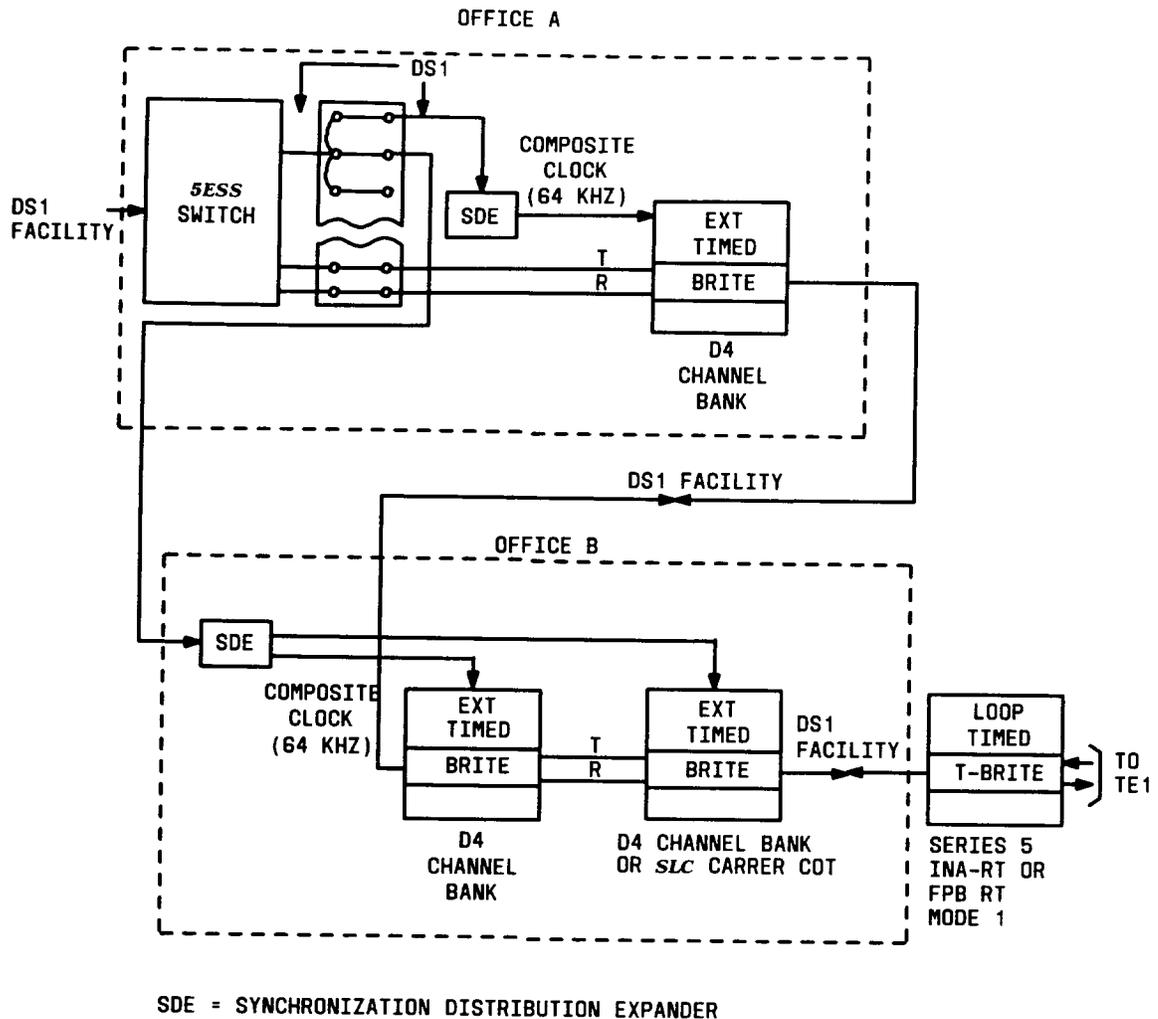

Figure 2— Suggested method of timing and synchronization for ISDN circuits
- **A common timing source must be established for the switch and transmission equipment so that synchronization will exist throughout the ISDN circuit.** Composite clock (64 kHz) must be used to time the transmission equipment. Suggested timing and synchronization methods are shown in Figure 2.
As shown in Figure 2, the 5ESS switch receives the clock source from the DS1 facility. The DS1 output is taken to the DSX terminating field where the SDEs (synchronization distribution expanders) in Office A and Office B extract timing from the DS1 facility and then generate the composite clock. The SDEs distribute the 64 kHz composite clock to the D4 channel banks or SLC 96 carrier central office terminals in both offices. The remote terminal channel bank (Series 5 INA-RT or FPB RT) is always loop timed to the far end channel bank.
The D4 channel bank must be externally timed or be loop timed to a common timing source. Figure 2 shows a suggested method of properly timing the D4 channel bank to insure proper synchronization.